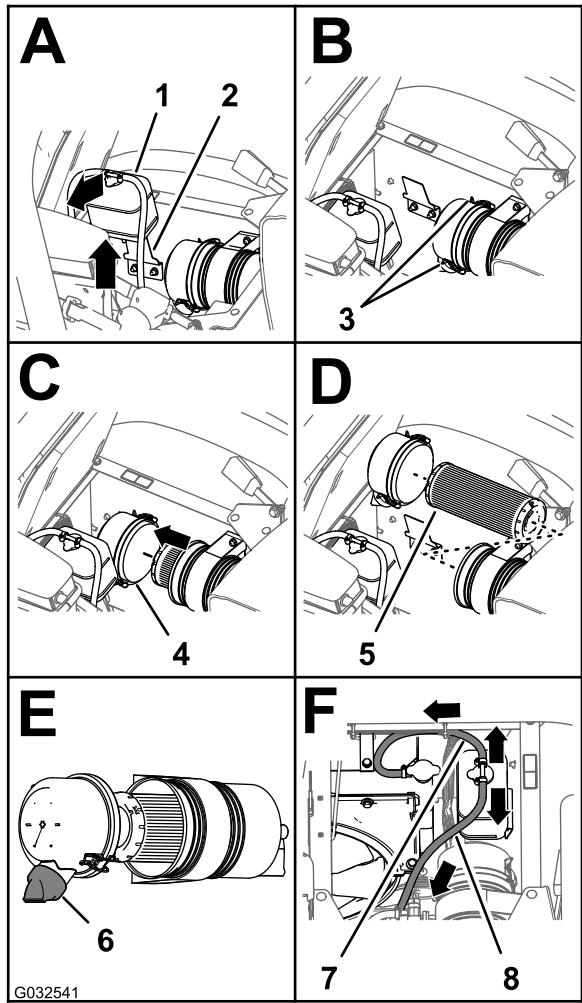

Figure 72
- Lift the coolant-overflow tank up and off the tank-support bracket (Figure 72).
4. Loosen the 2 latches that secure the dust cap to the air-cleaner body (Figure 72).
6. Clean the inside of the dust cap, air-cleaner body, and dust valve with a damp rag (Figure 71 and Figure 72).
7. Insert the air-filter element into the air-cleaner body (Figure 72).
- Install the cover onto the air-cleaner body and secure the cover with the 2 latches (Figure 72).
- Note:** Ensure that the dust valve is aligned between the 5 to 7 o'clock position when viewed from the end (Figure 72).
- Align the coolant-overflow tank to the tank-support bracket and seat the tank firmly (Figure 72).
**Important:** Ensure that the pressure-relief hose is routed forward and down, and the tank-vent hose is routed rearward as shown in Figure 72.